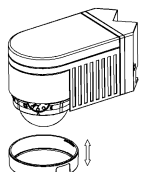

Figure1
- Unload the cover near the detection window and adjust the TIME and LUX knob. Screw off the nail below the detection window and unload the bottom (refer to figure 1 and 2). Also screw off two nails in the bottom and unload the bottom into two parts. (refer to figure 3)